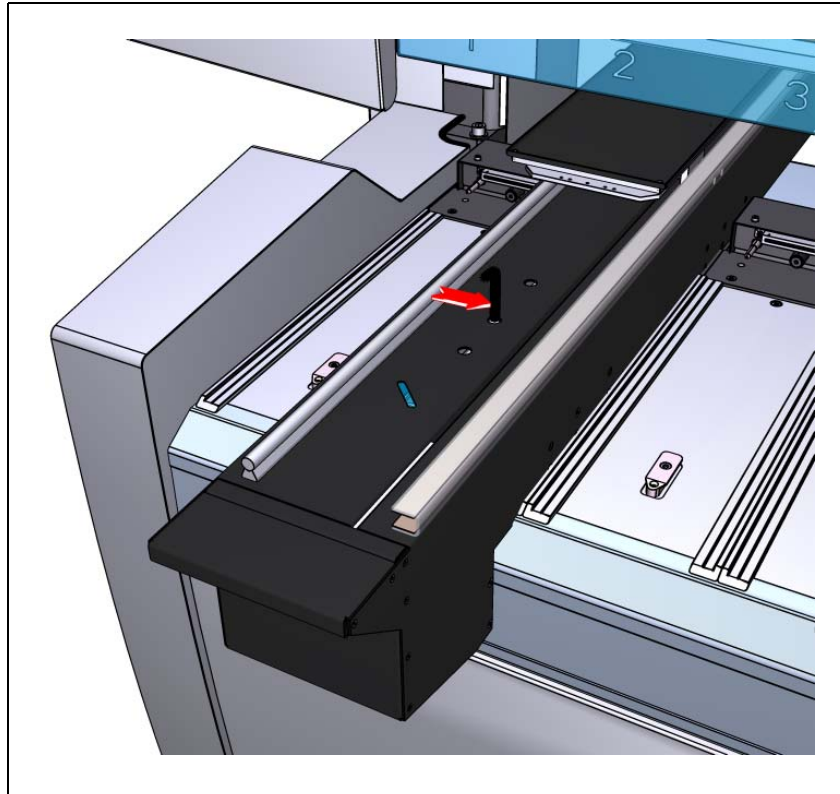

Figure 13-35. Adjusting the belt tension.
1. Insert the Tray Wagon magazine in a magazine position (see Figure 13-35). Any magazine position can be used for a one-module magazine. Two- and three-module magazines can be used in all magazine positions except for the positions required for the magazine top overhang.
2. Use an Allen key to fasten the screw (see arrow in Figure 13-35) that secures the magazine to the machine table.
4. The system will indicate that the tray wagon magazine is un-installed. Disconnect the TWM cable connector at the rear of the magazine, loosen the fixing screw (see Figure 13-35) and remove the magazine.